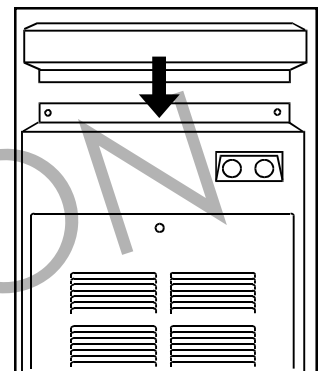

Figure 9.
9. Replace heater top and all eight screws (see Figure 9).